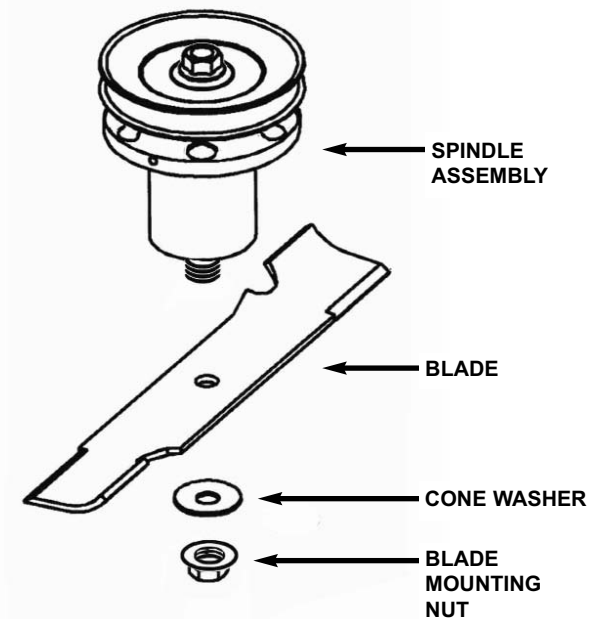

FIGURE 5.15
1. Remove blade. See Figure 5.15.
5. Reinstall blade. See Figure 5.15. Torque blade mounting nuts to recommended range of 70 to 80 ft. lbs.